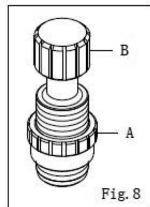

Fig. 8
2. 松开螺母(A), 转动螺丝(B), 调整其适当压力后再锁紧螺母(A)。(图8)
2. To increase the pressure of Presser Foot, to turn Adjusting Screw (B) clockwise after loosening Lock Nut (A) and to decrease the pressure turn Screw (B) counterclockwise. (Fig. 8)